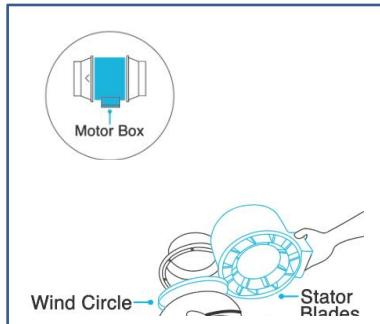

Fig.2.
- 2、Remove the motor box from the flange bracket.Remove the wind circle between the motor box and the intake flange.See the(Fig.2.)